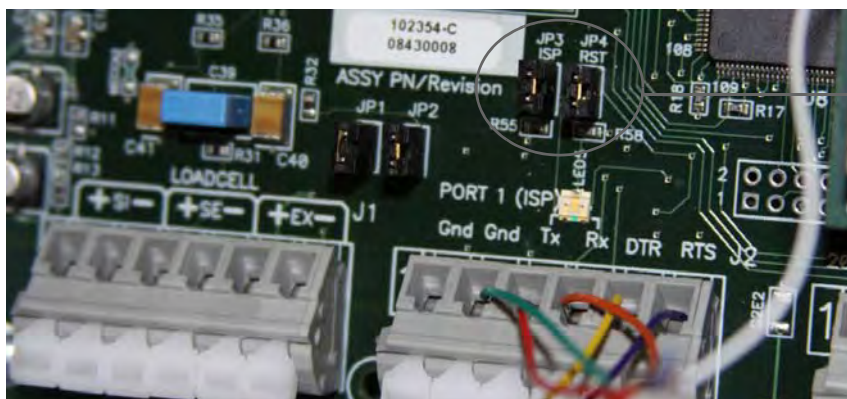

Figure 9-4. Jumpers installed on JP3 and JP4
3. Install jumpers on JP3 and JP4 as shown in Figure 9-4.
9. When complete, remove the jumpers shown in Figure 9-4 on page 62 and press the Power button to power up the indicator.